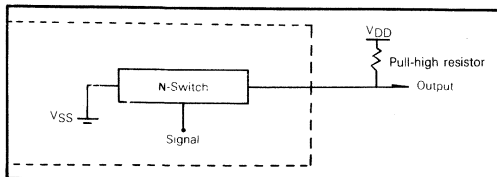

Figure 1
1) N-channel open drain output — \overline{DP} (figure 1).